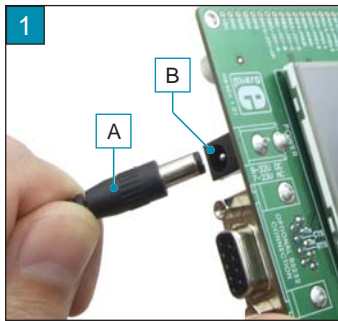

Figure 1-1: Plugging in DC connector
There is a DC connector marked as POWER provided on the *MultiMedia Board* to interface it to a power supply source. Plug in an appropriate power supply DC connector (A) into the DC connector POWER (B), Figure 1-1.